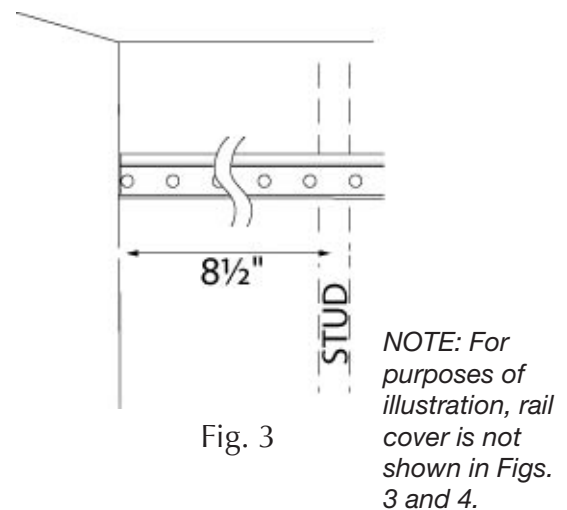

Fig. 3
3. Measure from a corner of the closet wall to the center of the first stud. Next, measure the same distance (e.g. 8-1/2") from the end of the rail. If the measured distance does not fall exactly on a rail hole (see Fig. 3), you must trim the end of the rail the length necessary to ensure the holes align with the wall studs. (Holes are pre-drilled on 1" centers along the length of the rail. Studs should fall on 16" or 24" centers.) Use a hacksaw and file to cut and de-burr a length of rail as necessary.